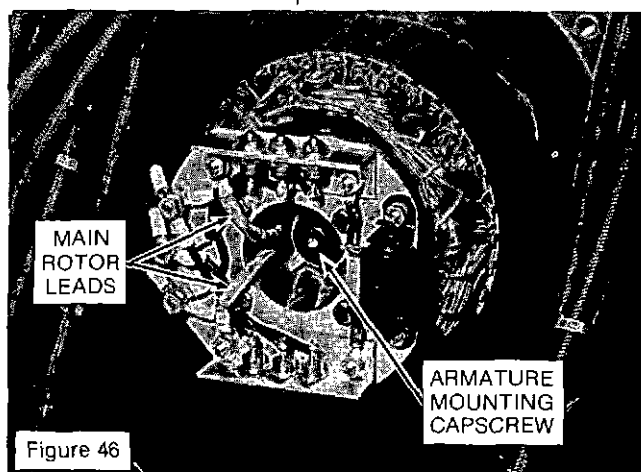

Figure 46
2. Connect both main rotor leads coming out of the aluminum standoff plate to the rectifier aluminum angle; one to each angle. (See Figure 46.)